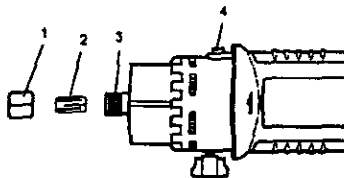

Fig. 29
2. Lock main shaft (3) by rotating the collet nut (1) while pressing on the spindle lock button (4) until the spindle lock prevents shaft from rotating (see Fig. 29).
3. Remove the collet nut by turning it counter-clockwise. Remove the collet (2) from inside main shaft of Cutting Tool.